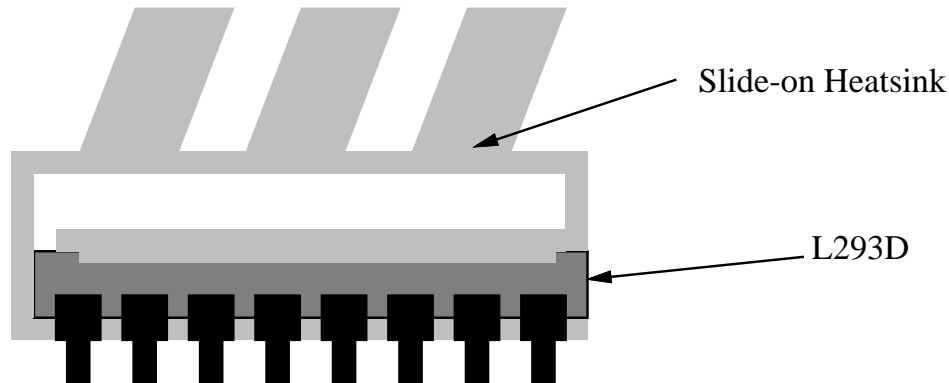

Figure 4.10: Heat Sink on Motor Chip
- **U21**–L293D. Slide gold heat sink onto chip before installing in socket. The diagram for the mounting is shown in Figure 4.10. The gold heat sink slides right onto the chip.